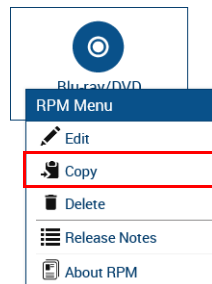

FIG. 72 Macro context menu
1. In the main *Macros* page, right-click on an existing A/V Source device macro, and select **Copy** from the RPM menu (FIG. 72):